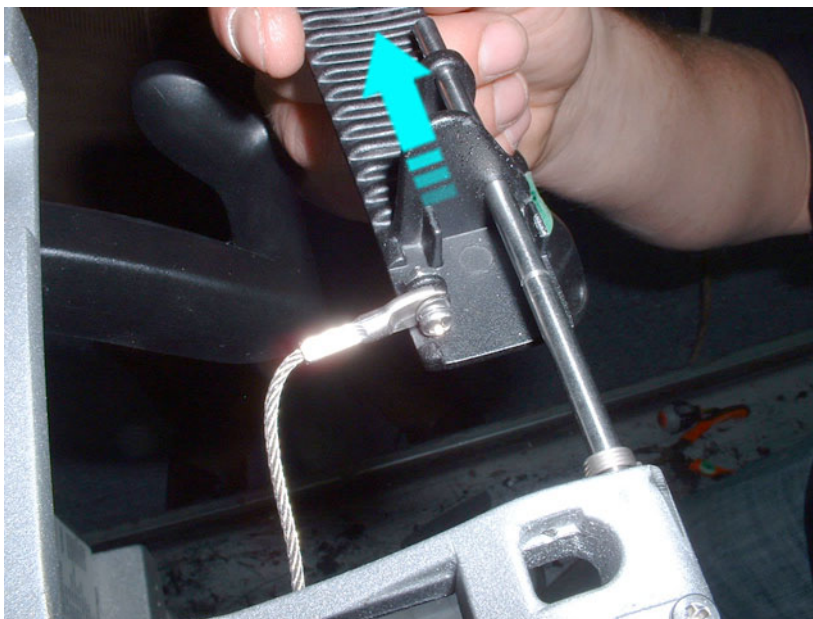

Figure 8-101 Release Cable and Slide Handle Sideways
- 7.) Disconnect the up-down/swivel cable from the handle to be replaced and slide the handle sideways to remove it from the supporting shaft - Figure 8-101.